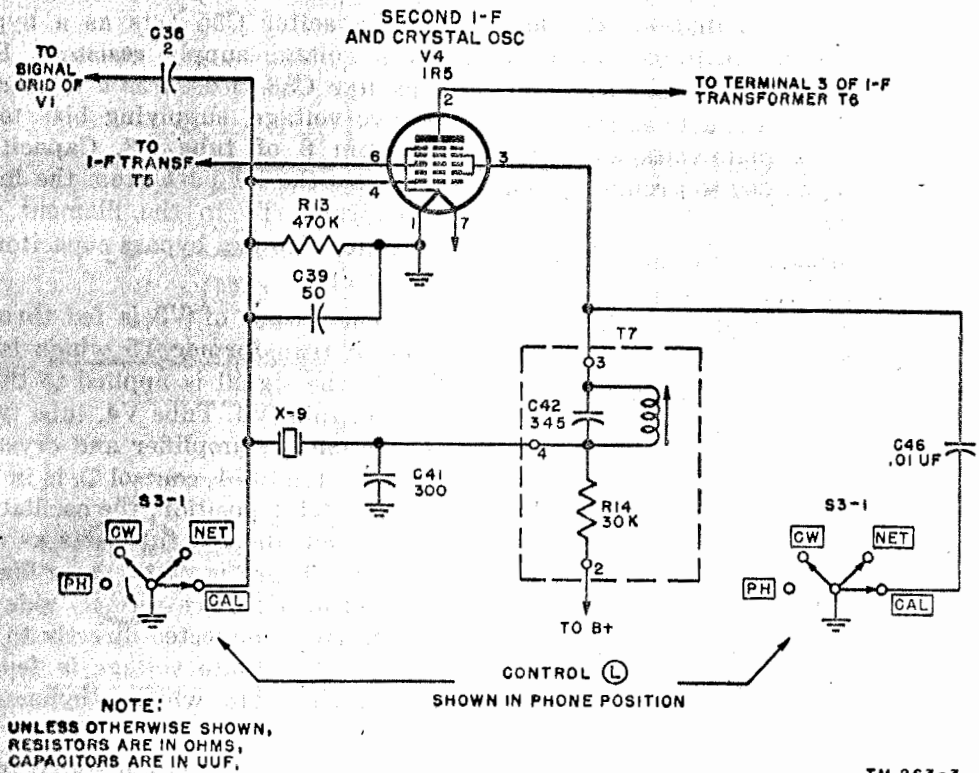

Figure 60. Crystal calibrator circuit.
85. Crystal Calibrating Circuit (fig. 60)